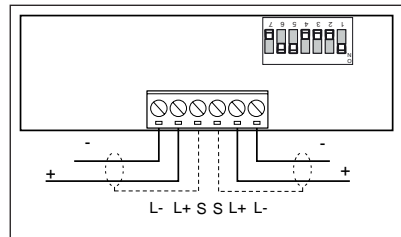

Fig 3 Terminal block connection
- Run the cables from the loop into the backbox and connect them to the terminal block as shown in Fig 3. Ensure that functional earth/screen continuity is maintained.